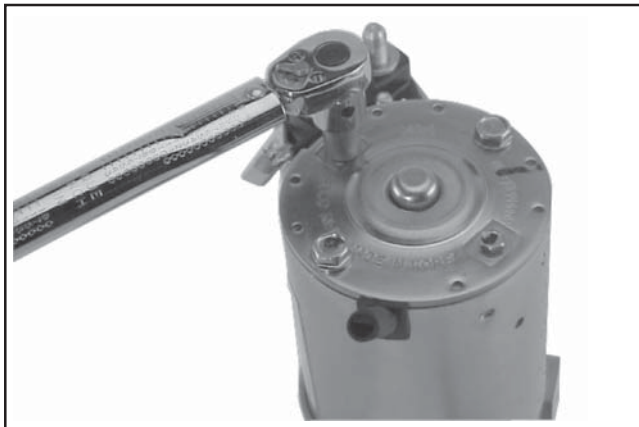

**Figure 8-41. Installing Brush Holder Assembly Using Tool with Extension.**
- d. Hold the starter assembly vertically on the end housing, and carefully place the tool (with extension) and assembled original brush holder assembly onto the end of the armature shaft. Slide the brush holder assembly down into place around the commutator, install the positive (+) brush lead grommet in the cutout of the frame. See Figure 8-41.